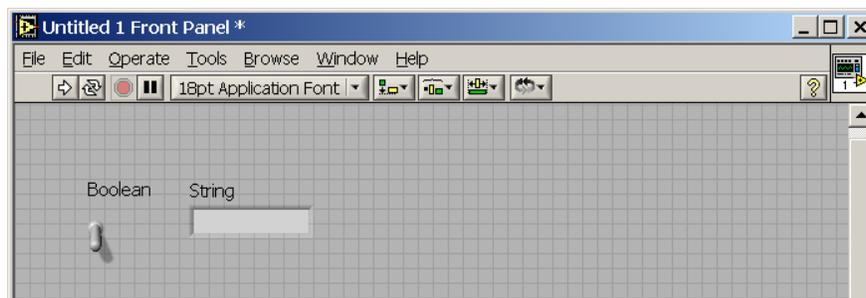

Figure 7
- In many programming languages, users can take advantage of the simple IF/ELSE and CASE statements. LabView also provides a method for these simple methods known as the **Case Structure**. To demonstrate our Case Structure, we will introduce two objects into our Front Panel from the controls window. We will need introduce a Vertical Toggle Switch and a String Indicator. With these objects, our goal will be display the status of our Toggle Switch in our String Indicator (e.g. "True" or "False"). Your Front Panel should look like that show in Figure 7.